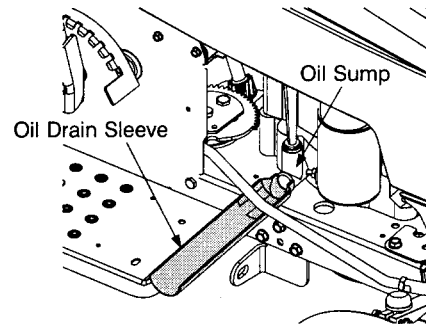

FIGURE 15
- Unscrew oil fill cap and remove dipstick from the oil fill tube. See Figure 15.
- Snap the small end of oil drain sleeve onto the oil sump. See Figure 15.